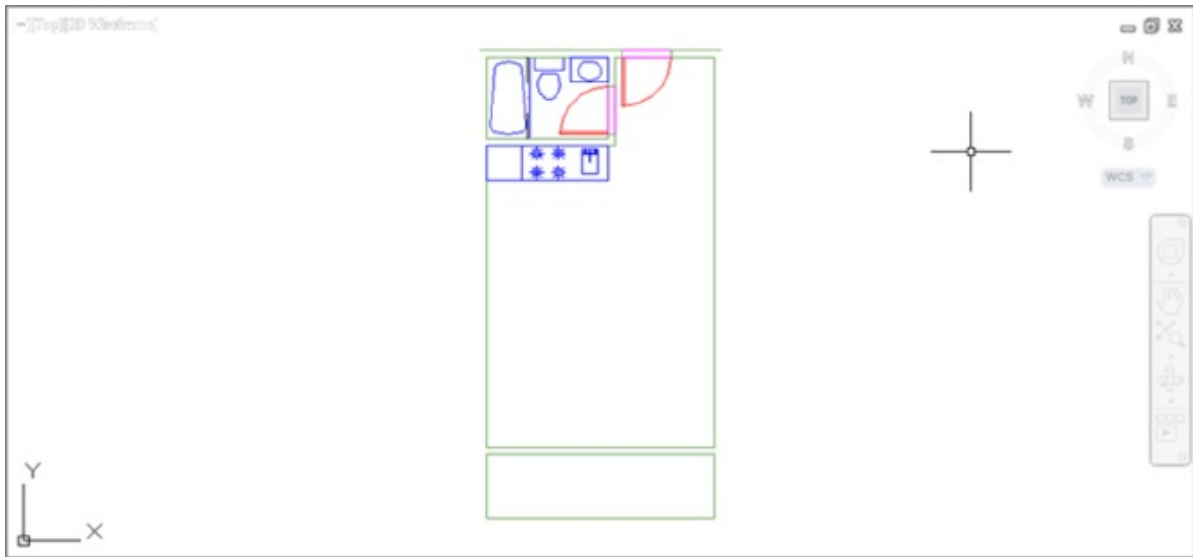

FIGURE 6.29 The studio unit so far
6. Click Zoom All from the Zoom flyout on the Navigation bar, or type **Z** ↵ **A** ↵ to view the entire drawing. It looks like Figure 6.29.